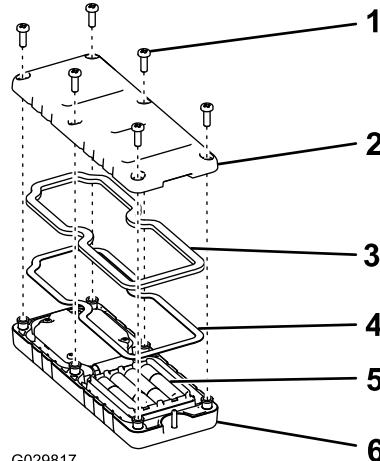

Figure 28
- Remove the 6 screws from the back of the remote and remove the cover (Figure 28).
- Replace the cover and secure it with the 6 screws removed previously (Figure 28) and torque them to 1.5 to 1.7 N·m (13 to 15 in-lb).